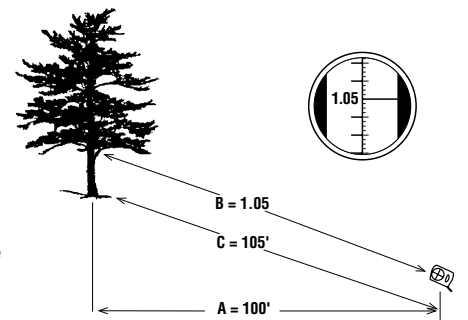

Figure 4
Correct slope distance (C) is determined by multiplying the required horizontal baseline distance (A) times the secant value of the slope (B). This example: 100 ft. x 1.05 = 105 ft. (correct slope distance). (See Figure 4.)